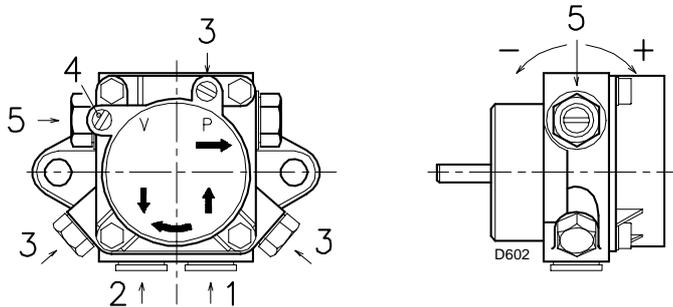

Fig. 22
For the priming pump loosen the screw 3)(Fig. 22) in order to bleed off the air contained in the suction line and wait until the fuel flows out.
Key (Fig. 22)
- In order for self-priming to take place, one of the screws 3)(Fig. 22) of the pump must be loosened in order to bleed off the air contained in the suction line.
**14 bar:** in order to increase fuel delivery or to ensure firings even at temperatures of less than 0°C. In order to adjust pump pressure, use the screw 5)(Fig. 22 on page 21).